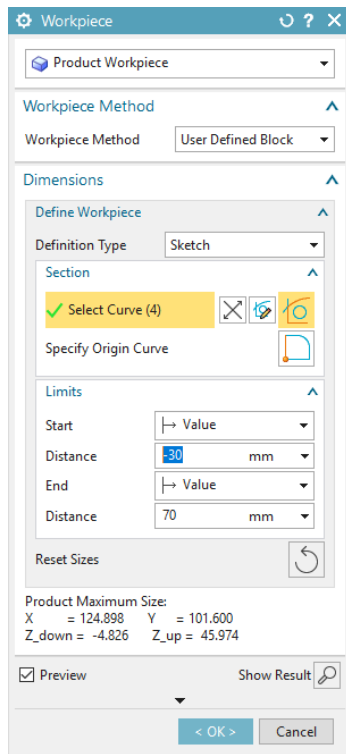

*Figure 15-100 Parting surface of the component*
4. Select **Segment 1** from the **Parting Segments** sub-rollout of the **Parting Lines** rollout. Next, choose the **Swept** button from the **Method** area of the **Create Parting Surface** rollout. Specify first and second direction. Enter **250** as the value in the **Extend Distance** dynamic edit box and choose the **Apply** button. Similarly, create parting surface for rest of the portion of the part, refer to Figure 15-100.